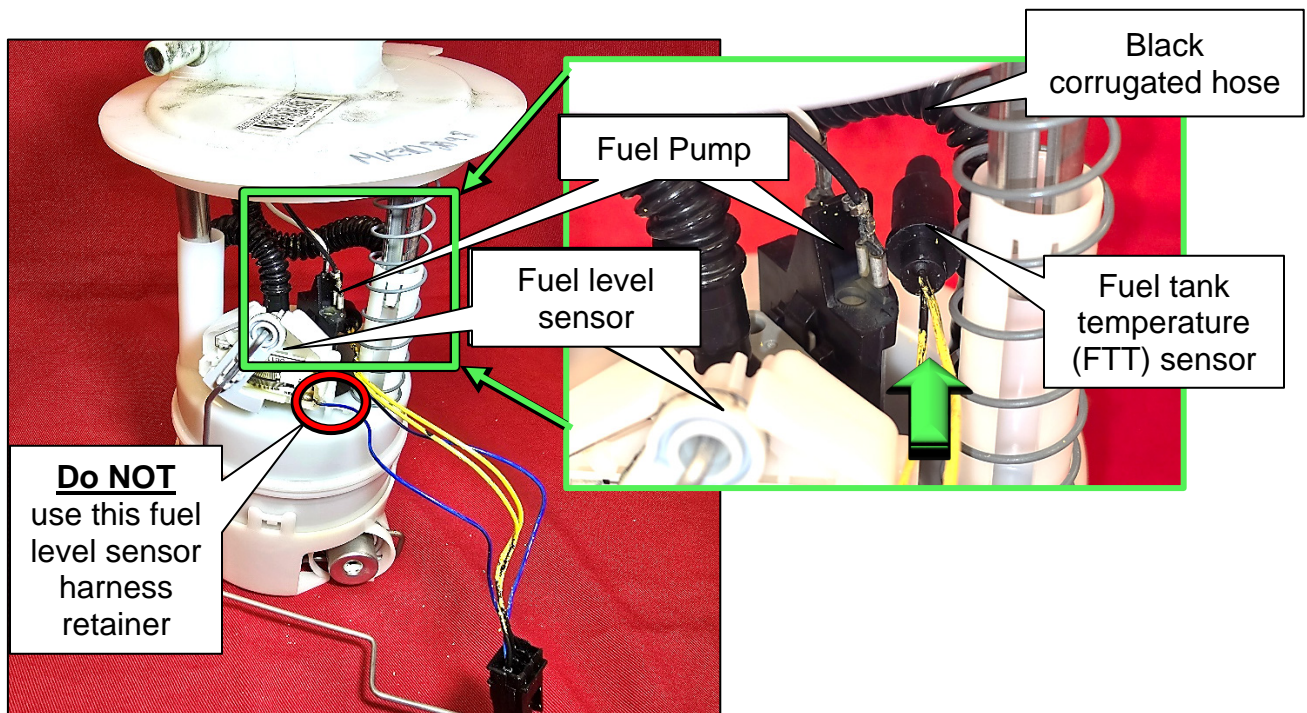

Figure 7
- With the fuel level sensor facing toward you, route the FTT sensor between the right hand black corrugated hose and the fuel pump as shown in Figure 7.
IMPORTANT: **Do NOT** clip the fuel level sensor wires into the harness retainer beside the fuel level sensor shown in Figure 7.